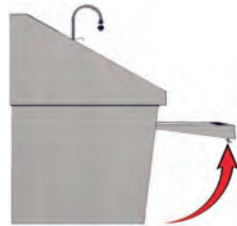

Fig. 25 - Door in Fully Opened Position
2. Swing the door fully open to access the hinges (Fig. 25).